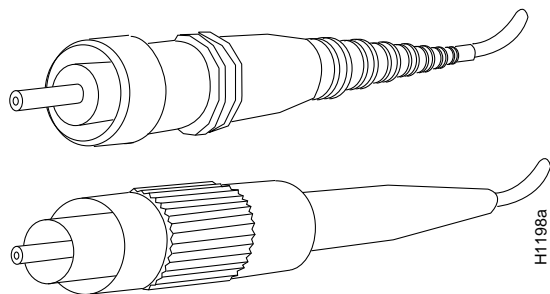

Figure 3-2 FDDI Single-Mode Network and Chassis Connectors
- FDDI single-mode FC-type network and chassis connectors, Figure 3-2
The FC-type single-mode connectors shown in Figure 3-2 are used with the APP-LSS, APP-LSM, and APP-LMS FDDI appliques.